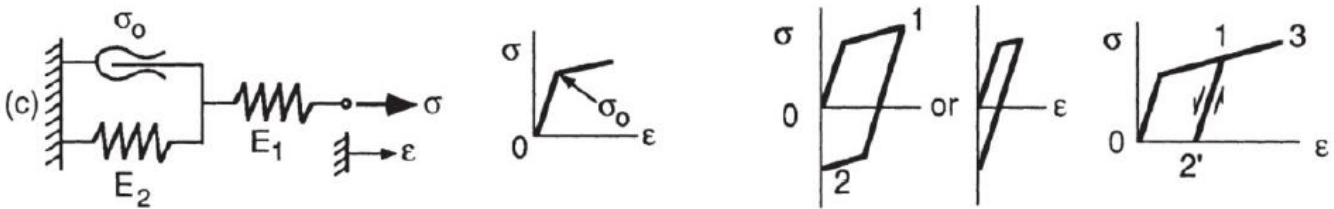

Figure 5.3 Rheological models for plastic deformation and their responses to three different strain inputs. Model (c) elastic, linear hardening.
5.4 An aluminum alloy is represented by the elastic, linear hardening model of Fig. 5.3(c), with constants of $E_1 = 70$ GPa, $E_2 = 2.5$ GPa, and $\sigma_o = 300$ MPa. Plot the stress–strain response for loading to a strain of $\varepsilon = 0.016$. Of this total strain, how much is elastic, and how much is plastic?